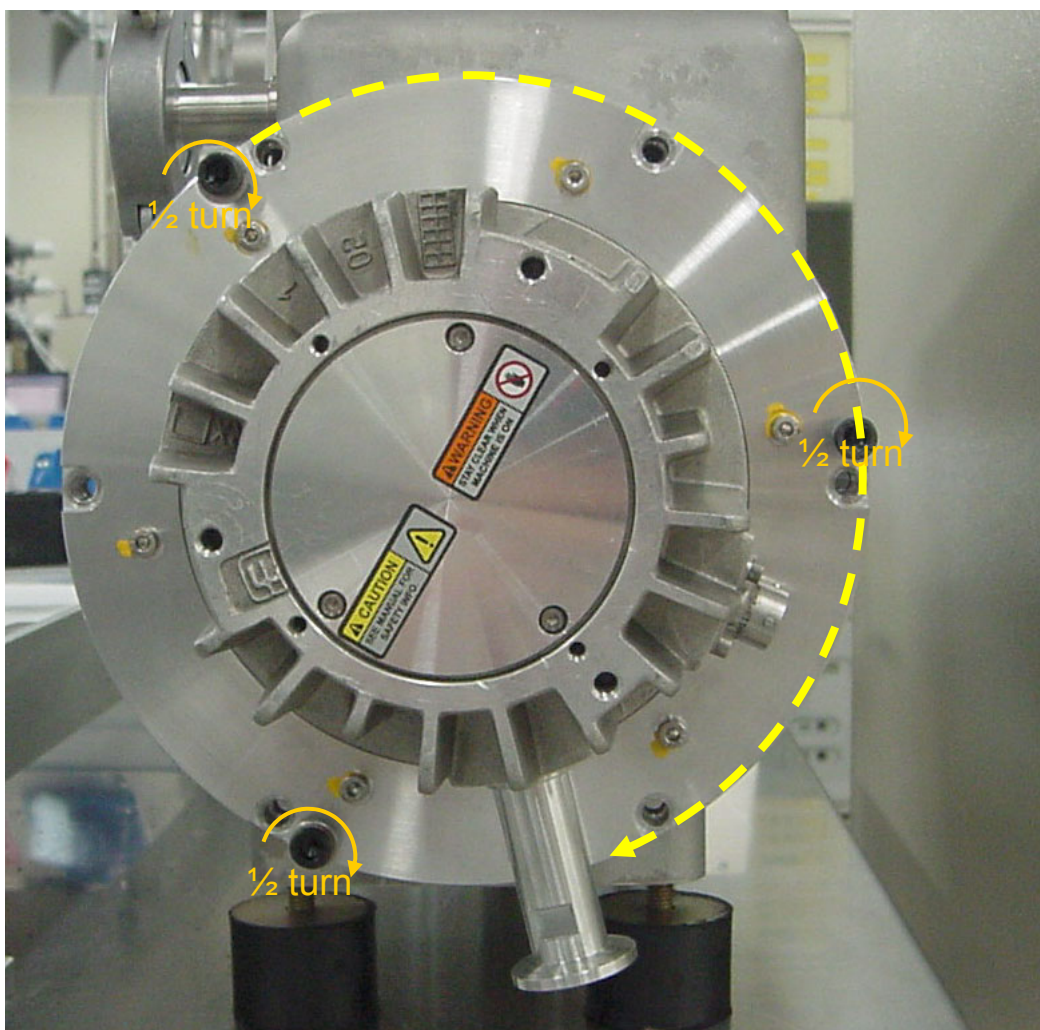

Figure 7
4. Screw in the 3 M6 screws clockwise, starting anywhere, half turn/lap (Fig. 7).